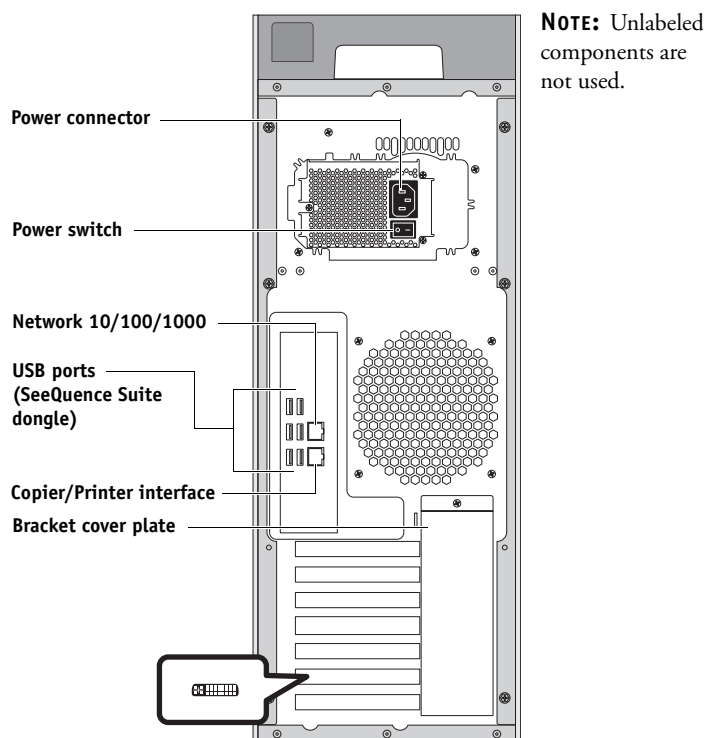

FIGURE 50: Back panel of E-81
- All interface cables to the system are plugged into the proper connectors on the back panel of the E-81 (see Figure 50).